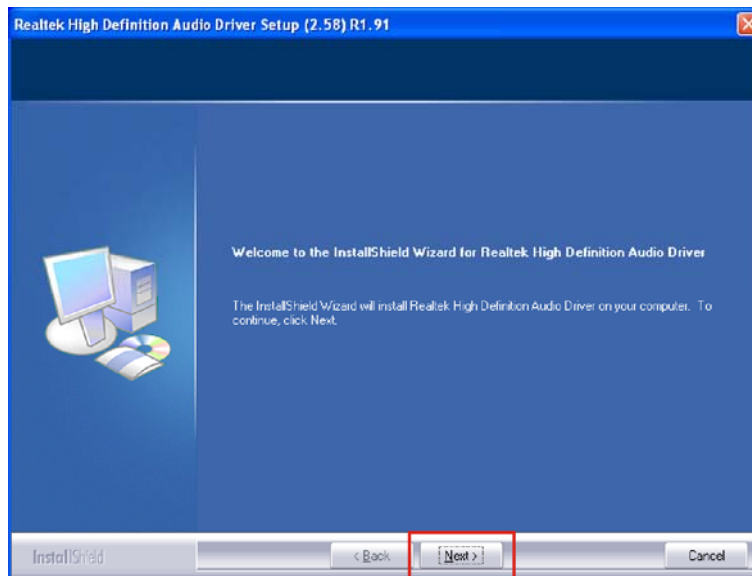

Figure 6-22: Audio Driver Installation
Step 3: The audio setup window appears (Figure 6-22).
Step 4: Click **NEXT** to start the driver installation (Figure 6-22).